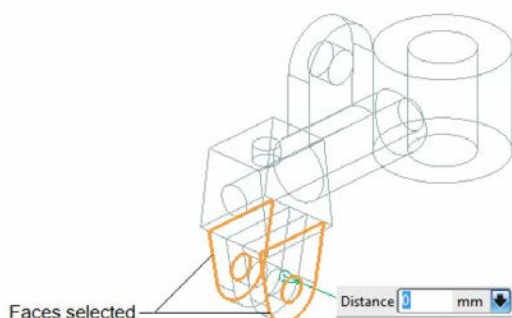

Figure 13-118 Faces selected
- Align the outer faces of the double flange using the **Offset Region** tool, refer to Figure 13-118.
2. Select the outer faces of the double flange, refer to Figure 13-118 and enter 5 in the **Distance** edit box of the **Offset** rollout.